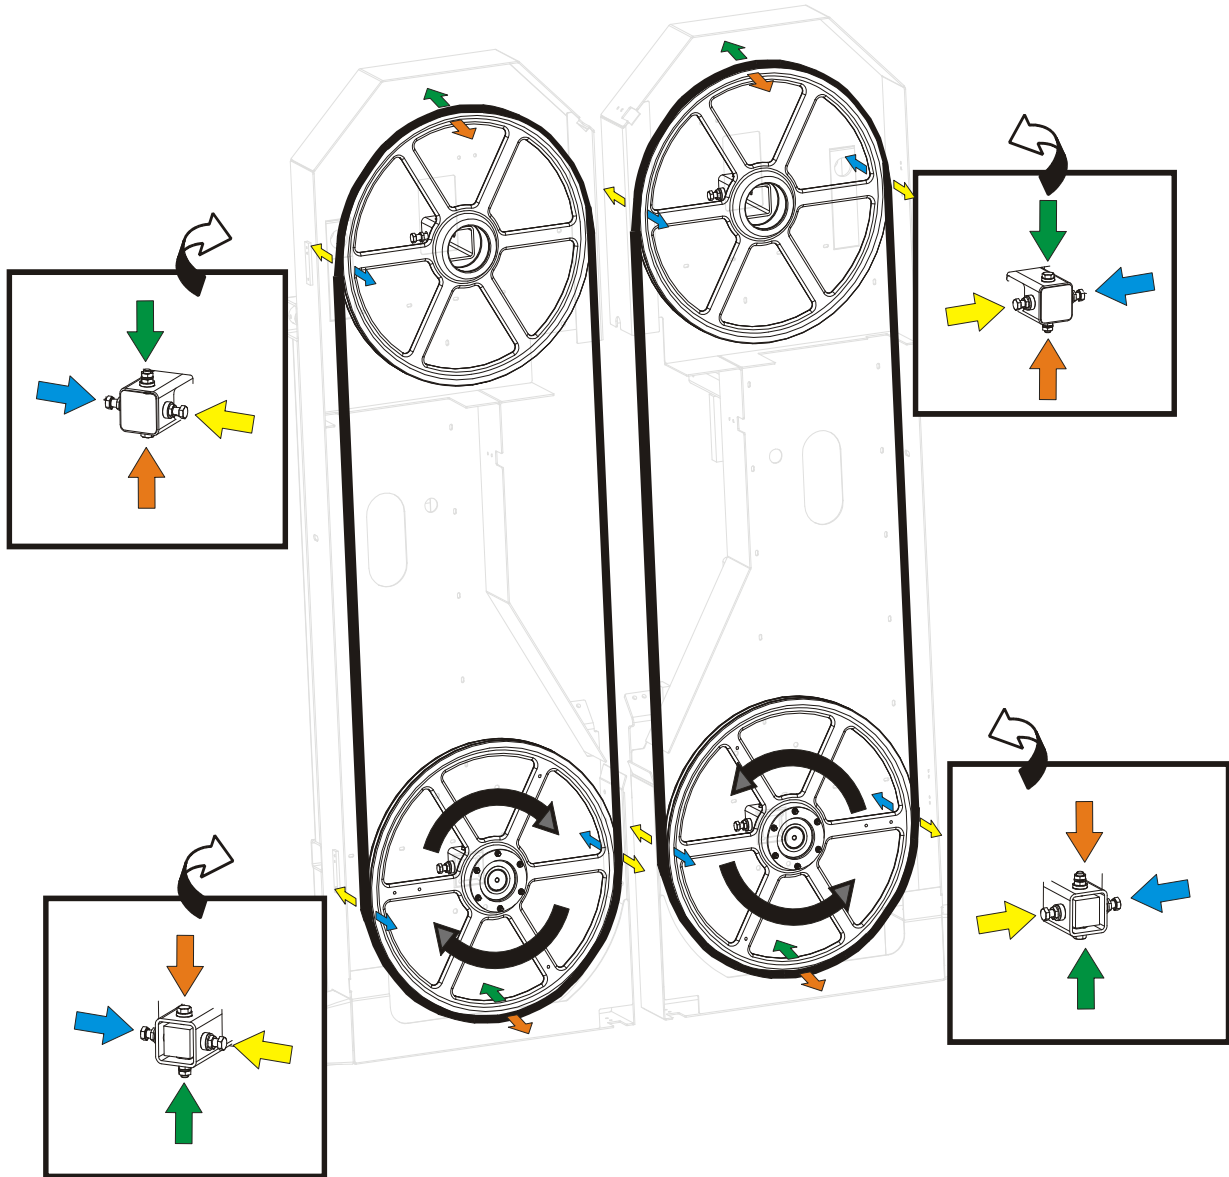

FIG. 5-26
**See Figure 5-26.** Arrows show which bolts should be used to tilt the wheels in required